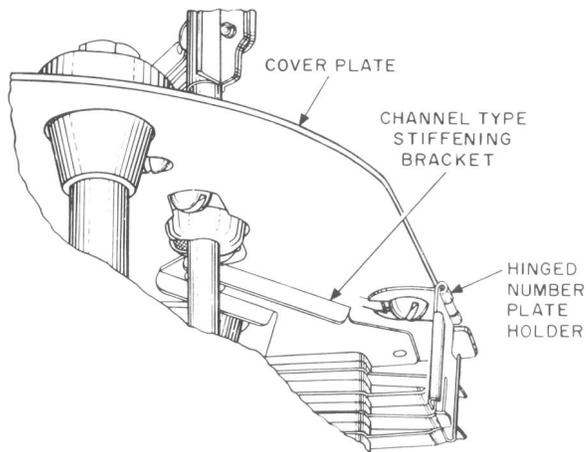

Fig. 1—Channel-Type Stiffening Bracket on Cover Plate
(3) Cleaning Upper Half of Bank
- (a) Clean the upper half of the bank with the switch shaft in the vertical normal position. Hold the KS-16298 handle so the associated KS-16062 L2 rotor is at the right with the discs horizontal and extending toward the bank to be cleaned. Position the rotor at the left of the bank so the discs will enter the five upper levels of the bank with the top level between the second and third discs from the top of the rotor. When cleaning the upper half of banks in the top position on switches having a channel-type stiffening bracket, shown in Fig. 1, place the rotor in the bank with the top level between the first and second discs from the top of the rotor.